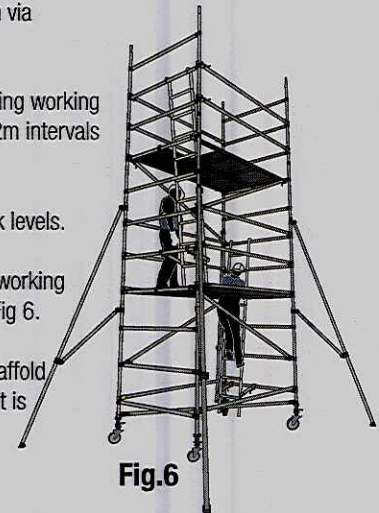

Fig.6
17. Tower is now complete with top working platform at 4m height, as shown in Fig.6.